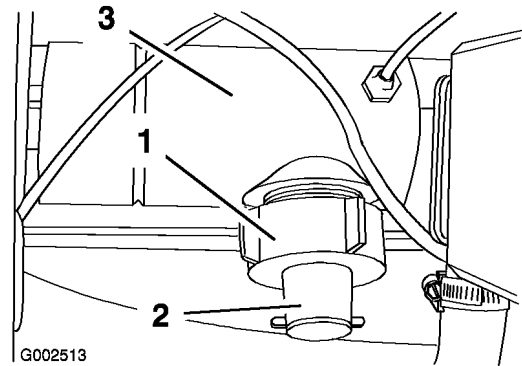

Figure 48
1. Remove the retaining cap from the flowmeter body (Figure 48).